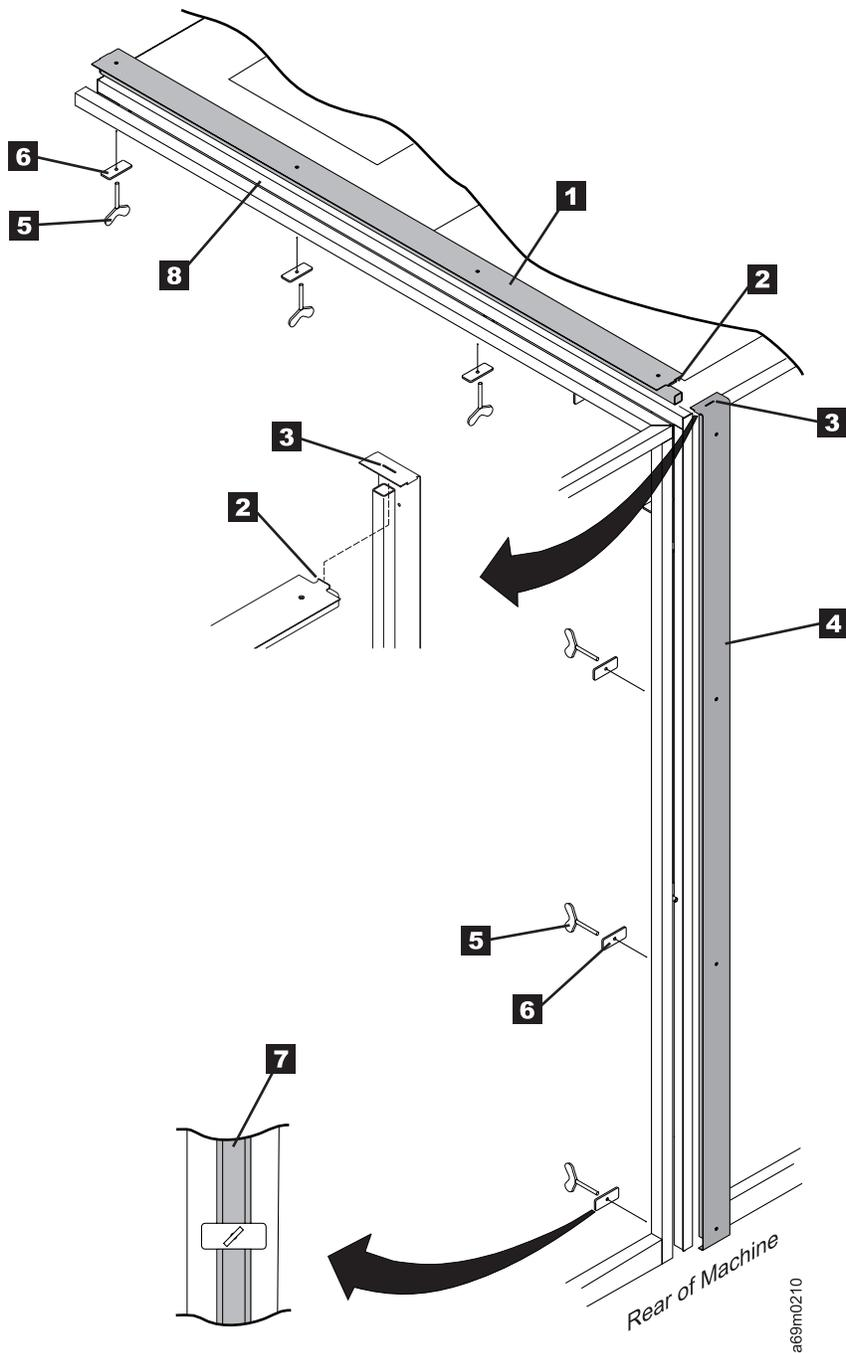

Figure 42. Expansion Frame Spacers
- ___ 63. If you installed a **later-style expansion frame**, refer to Figure 42 and use the following procedure to install two RFI seals: